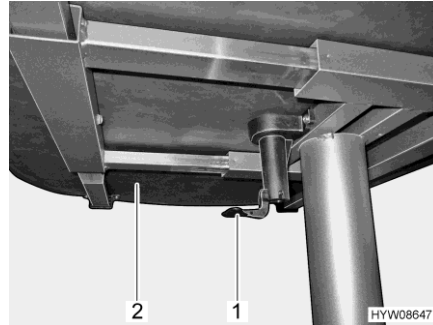

Fig. 90 Lever for moving the table top
- Pull or press down the lever (Fig. 90,1).
- Move the table top (Fig. 90,2) to the desired position.